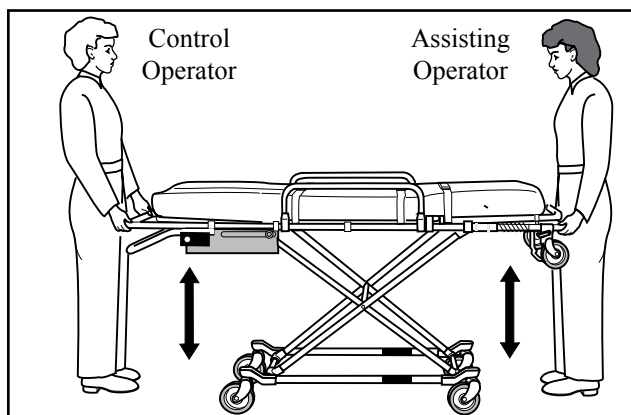
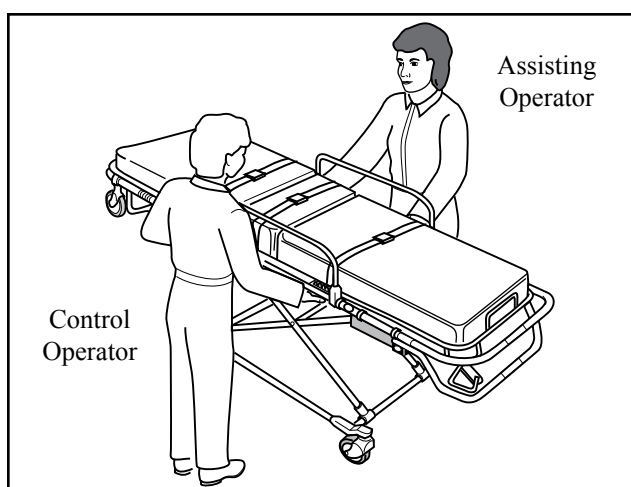

Figure 19 - Using the Foot-end Control Handle
Figure 20 - Using the Side Control Handle
1. **Both Operators:** Stand at opposite ends or sides of the cot (Figure 19 or Figure 20).